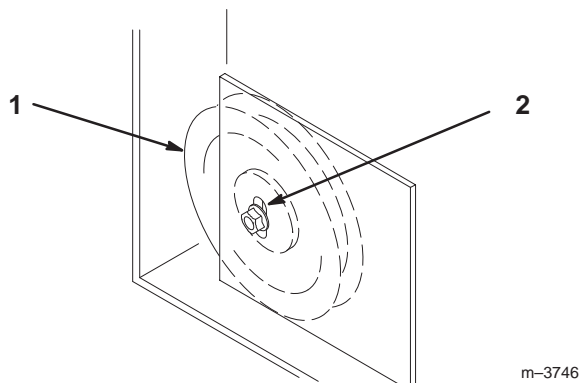

Figure 54
9. If adjustment is required, loosen the fixed idler on right support plate and move up or down in adjustment slot (Fig. 54). To relieve belt tension lift up on spring loaded idler.